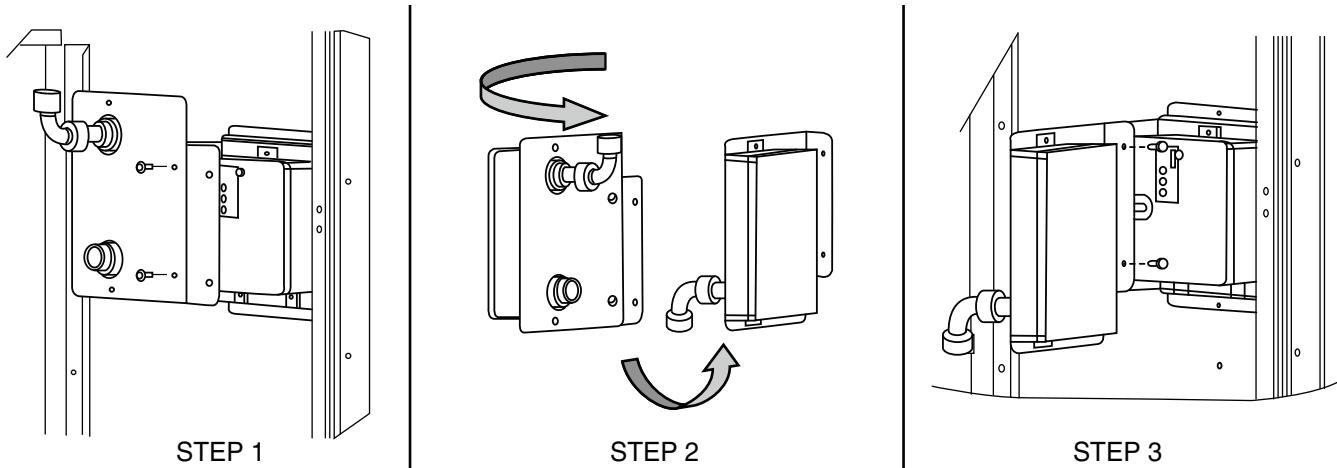

Fig. 96 — Completing Installation of Return Air Smoke Sensor
1. Unscrew the two screws holding the Return Air Smoke Detector assembly. See Fig. 96, Step 1. Save the screws.
2. Turn the assembly 90 degrees and then rotate end to end. Make sure that the elbow fitting is pointing down. See Fig. 96, Step 2.
3. Screw the sensor and detector plate into its operating position using screws from Step 1. See Fig. 96, Step 3.